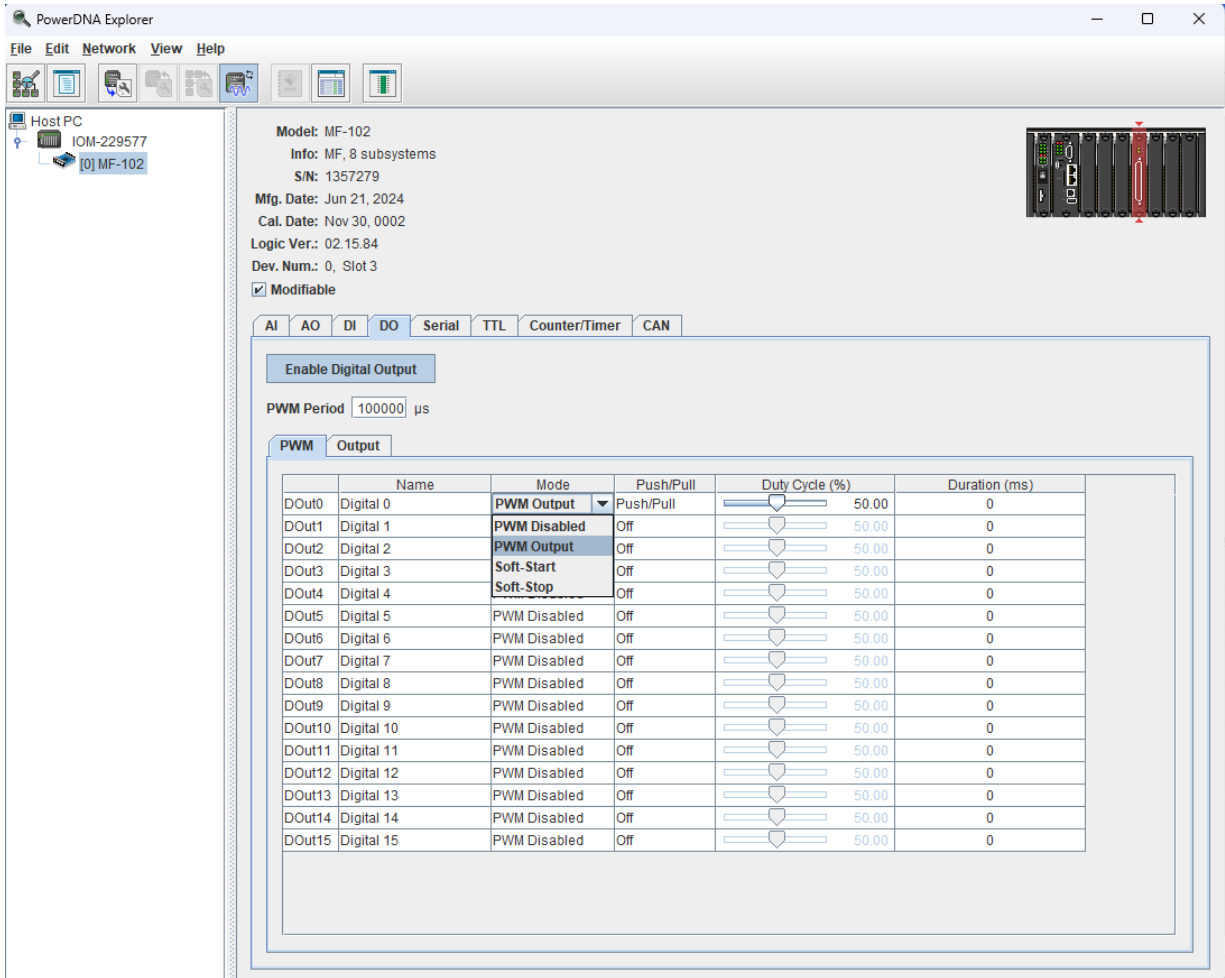

Figure 3-6 PowerDNA Explorer DO Tab, PWM Subtab
3.5.1 Configure PWM The DO PWM subtab (**Figure 3-6**) configures the following output channel properties: